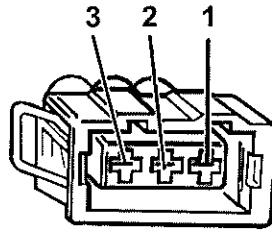

Fig 34 Engine speed sender (G28) - 3-pin connector
81.7 Check wires between test box and connector for breaks (see Fig 34) using vehicle wiring diagram: